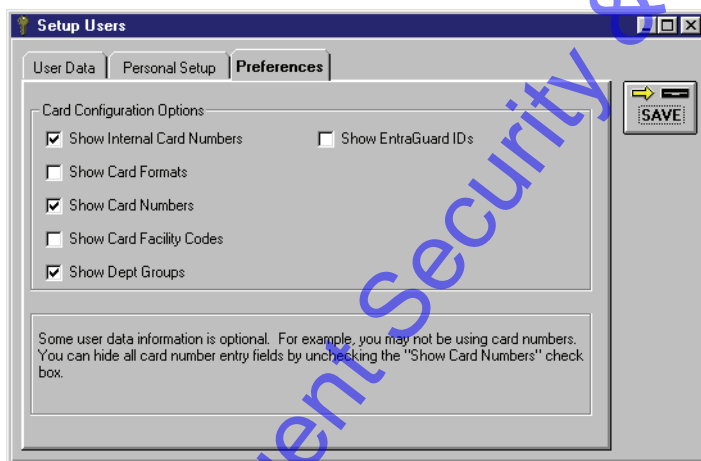

Figure 4-23: Preferences Tab
3. Click on the **Preferences** tab. The resulting window should look similar to Figure 4-23.